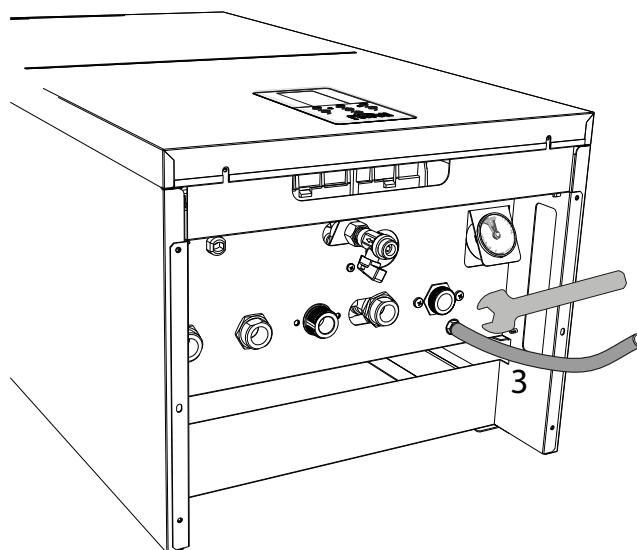

fig. 25
To drain the system, attach a rubber hose (ref. 3 - fig. 25) to the circulating pump drain valve connection.